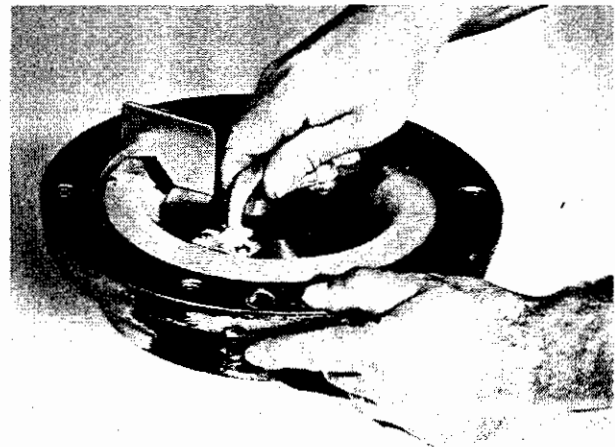

Fig. 8 - Application of Grease Mask
8. Rotate grease contour mask to form the proper contour, keeping mask seated as shown in Fig. 8. Several turns may be required. Use spatula or putty knife to fill low spots with grease from the grease mask blade.